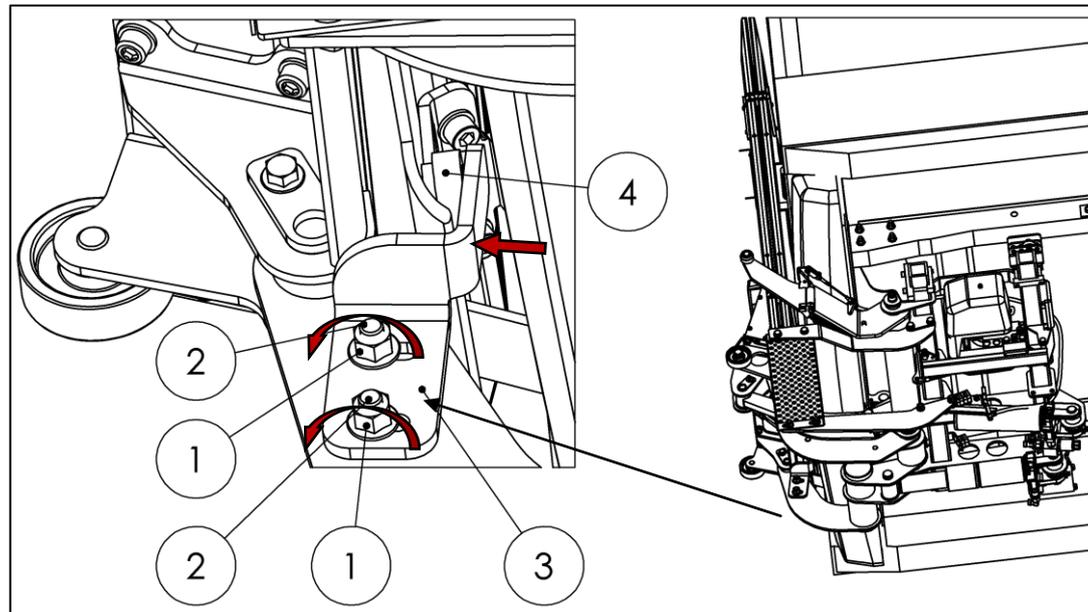

Fig. 85
- Loosen the nuts (1) and bolts (2) on the stopper (3).
- Press the stopper (3) firmly against the plastic disk (4) (see Fig. 85).